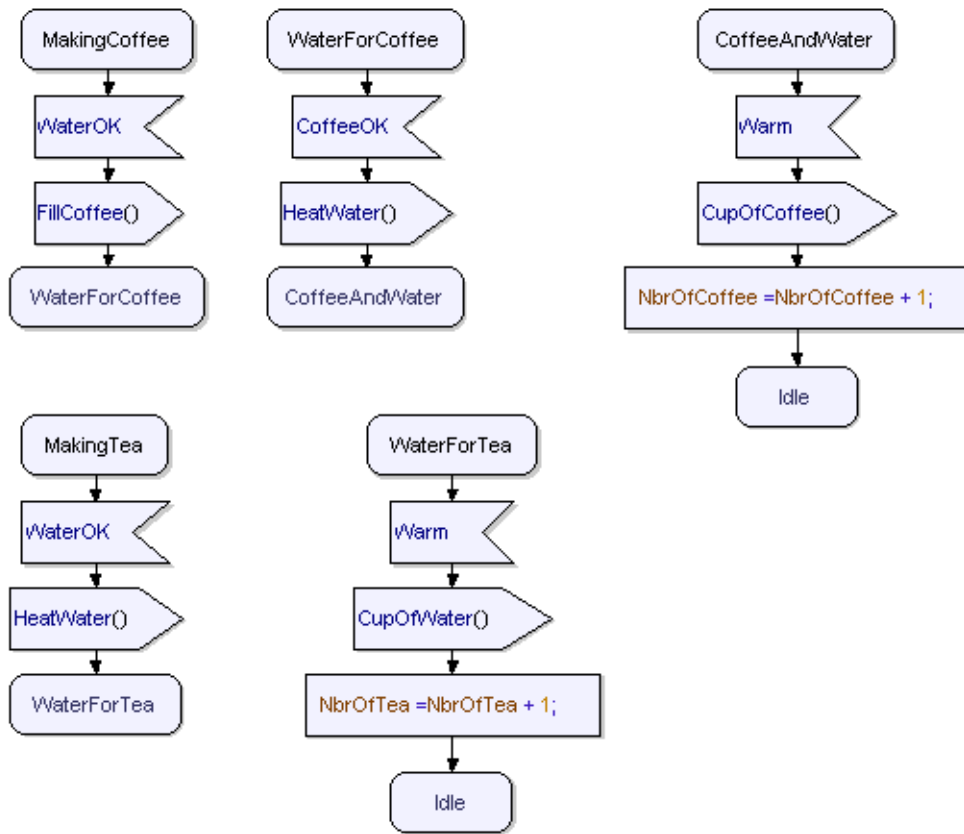

Figure 16: State machine diagram MakingBeverage
6. Implement the rest of the behavior according to Figure 16 on page 30.